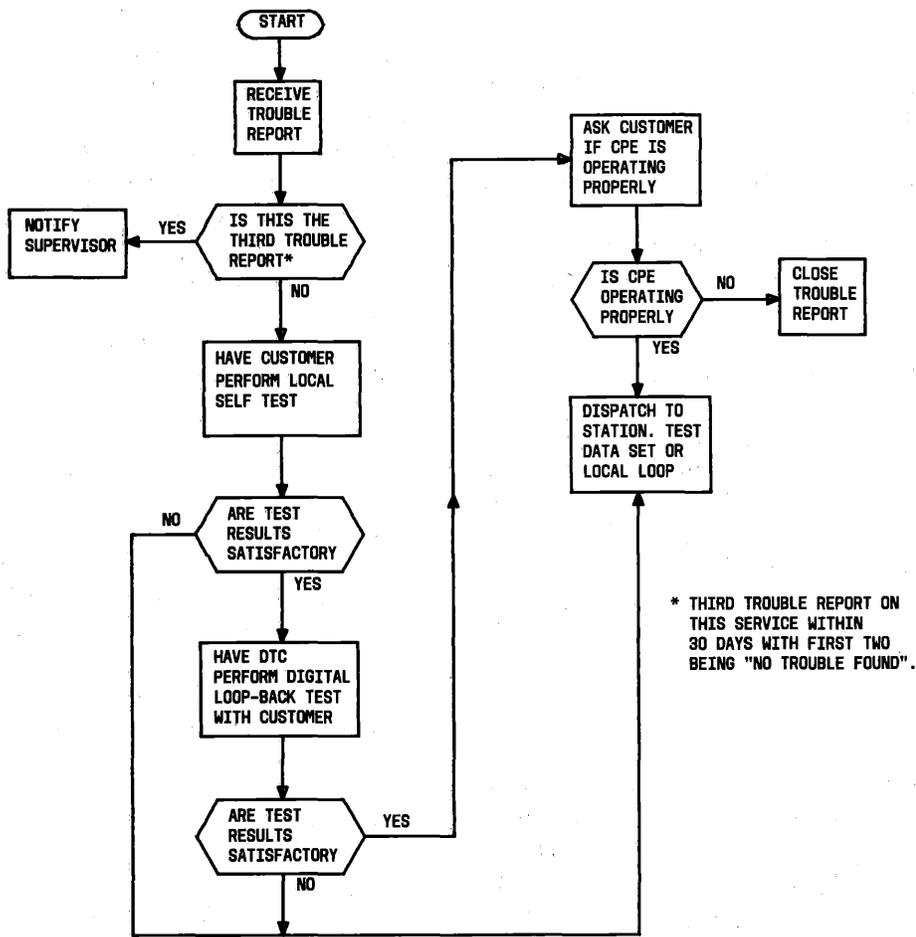

Fig. 6—Maintenance Test Sequence—DS 113D-L1/2
4.01 The procedure given in Fig. 6 should be used as an aid in sectionalizing trouble. This information, usually provided to the DTC, is included here for use by those locations where the trouble is reported to and investigated by the local repair force.